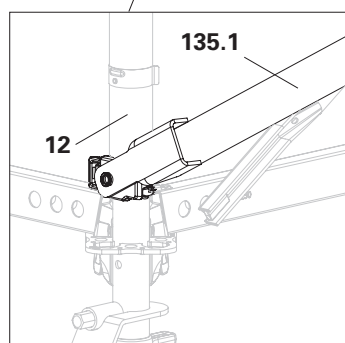

Fig. A15.07b
1. Vertically reinforce the multi brace (135) with an outer tube (135.1). Fit the outer tube to the standard (12) (Fig. A15.07b) and to the inner tube (135.2), close to the outer tube. The assembly position has an impact on the support angle.